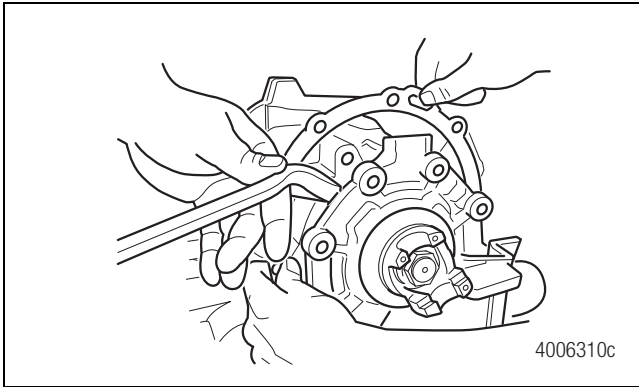

Figure 4.13
- Use a pry bar and mallet to loosen the input cage cover and internal pump assembly, if equipped. Figure 4.13.
7. Remove the shim pack. Figure 4.13.